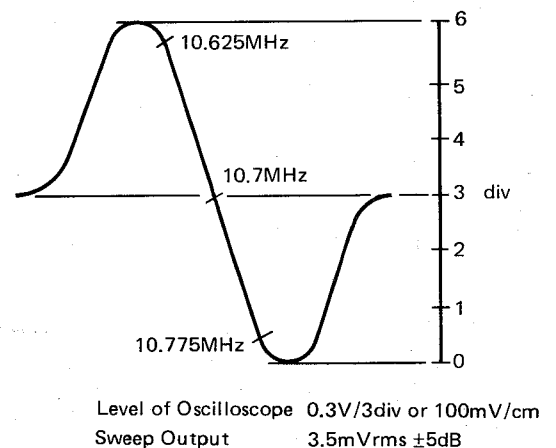

Fig. 21
2. Adjust T1003 until the 10.7kHz marker is at the center of slanted line as shown in Fig. 21.
3. Adjust T1001, T1002 and T1003 to obtain the waveform as shown in Fig. 21.